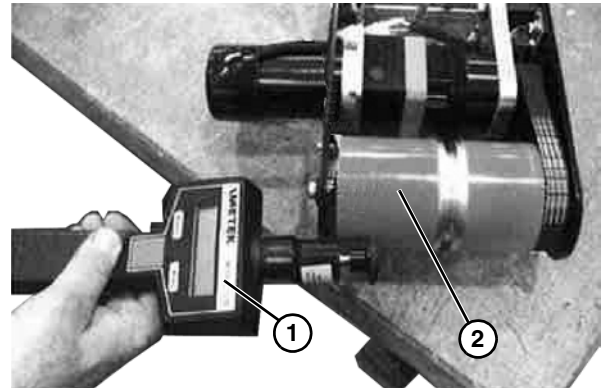

Figure 71
1. Place a tachometer (Figure 71, item 1) against the spindle (Figure 71, item 2) to register the speed (Ft./Min.).